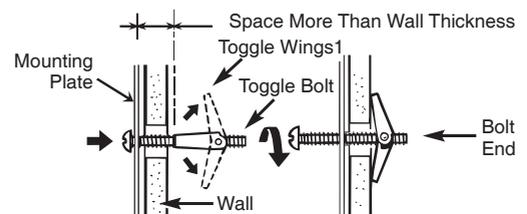

Figure 30
4. Attach the plate to the wall. To use spring toggle head bolts: Remove the toggle wings from the bolts. Insert the bolts into the mounting plate and replace the spring toggle head to 3/4 past the bolt ends. Insert the spring toggle head into the holes in the wall to mount the plate. You may pull forward on the plate to help in tightening the toggle bolts. Tighten all bolts. See Figure 30.